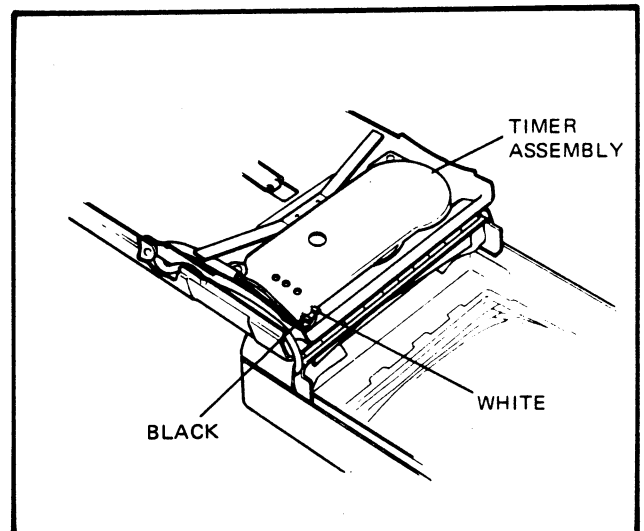

FIG. 5.36 LOCATION OF TIMER LEADS
4. Open the rear door and unsolder the black and white leads (identified in Figure 5-36) from the timer.
3. Solder the black and white leads to the timer (see Figure 5-36).